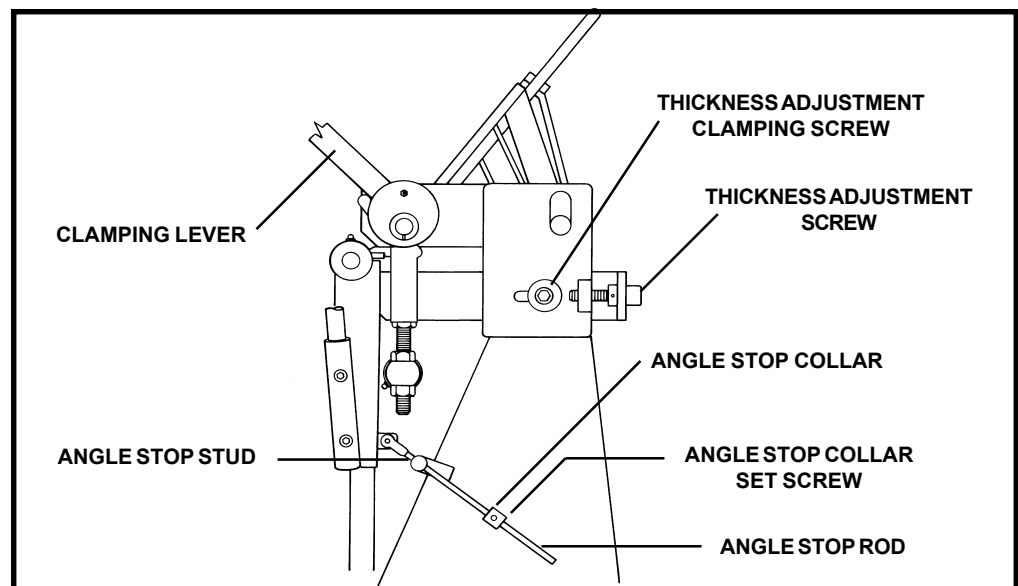

Figure 4. Material Thickness and Angle Adjustments.
1. With the upper beam lowered to the normal operating position, but not clamped tightly against the bed, loosen the thickness adjustment clamping screws located on both ends of the brake (see Figure 4).
3. Move the upper beam forward or back until proper clearance is achieved by turning the thickness adjusting screw located at rear of the leg bracket on each end of the machine (see Figure 4). Final adjustment must always be toward the front of the brake to remove backlash from the adjusting screws.
4. Retighten the clamping screw on each end of the machine (see Figure 4).
1. Loosen the angle stop collar set screw and move the angle stop collar out toward the end of the angle stop rod. (See Figure 4.)